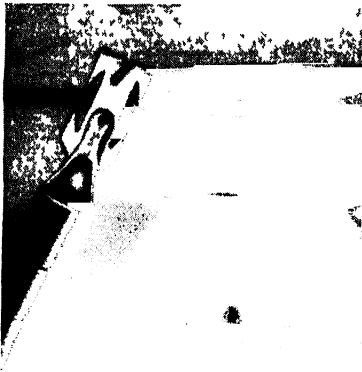

FIG 22-31. Removing tie wire with blade-type tie stick. (Courtesy A B Chance Co.)
**Removing the Tie Wire.** The tie wire is untied by starting to unwind the end of the tie wire with the tie-wire blade on the tie stick, as shown in Fig. 22-31. If the tie wire has no end which can be easily reached with the blade of the tie-wire stick, an end is made by cutting the tie wire at some convenient point with a hack saw. The tie wire is then unwound by pulling the end of the tie wire, if it points away from the pole. If the end of the tie wire points toward the pole, it is started by pushing up with the blade of the tie-wire stick. After this has been done, the old tie wire is easily unwrapped with the head of the tie stick. If it has a long wrapping, it should be cut with the hack saw as soon as the untied portion becomes difficult to handle. If it gets too long, there also is danger of it touching the other conductor and shorting the line.